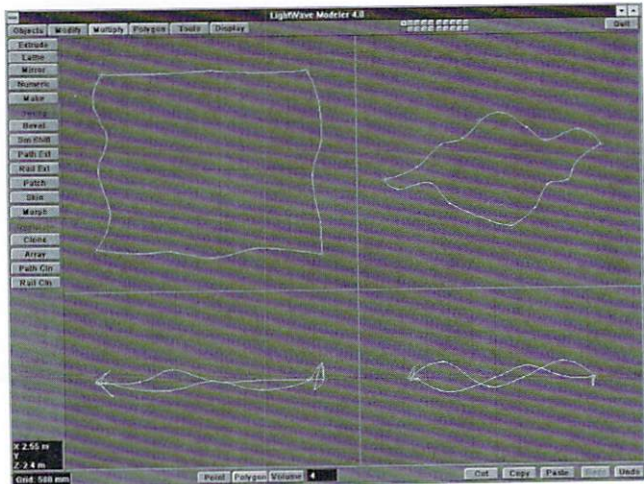

Figure 2: Four selected curves ready for patching.
- Using Sketch, draw four curves (Figure 2) and connect them together by welding the points on the ends.